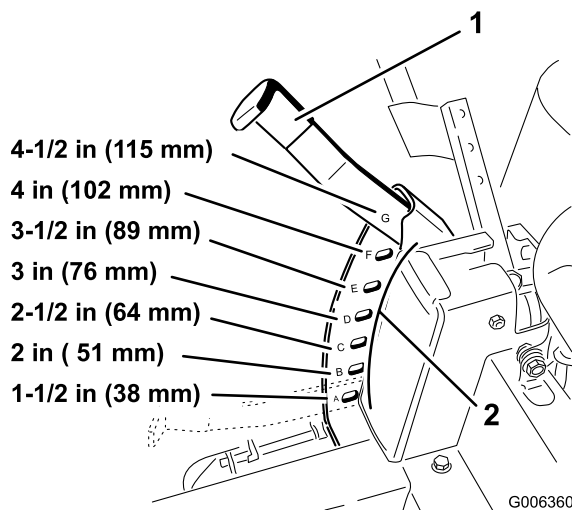

Figure 15
3. Raise the height-of-cut lever to the transport position, cutting height position **G** (also the 4-1/2 inch [115 mm]) (Figure 15).